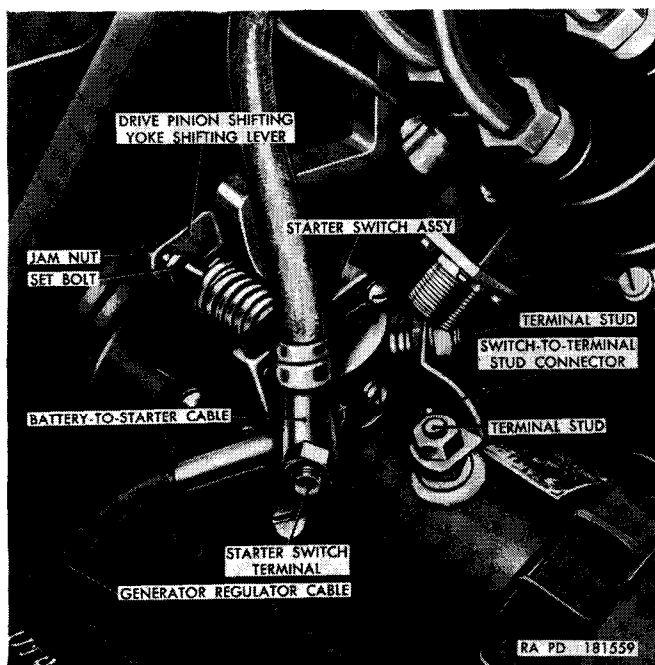
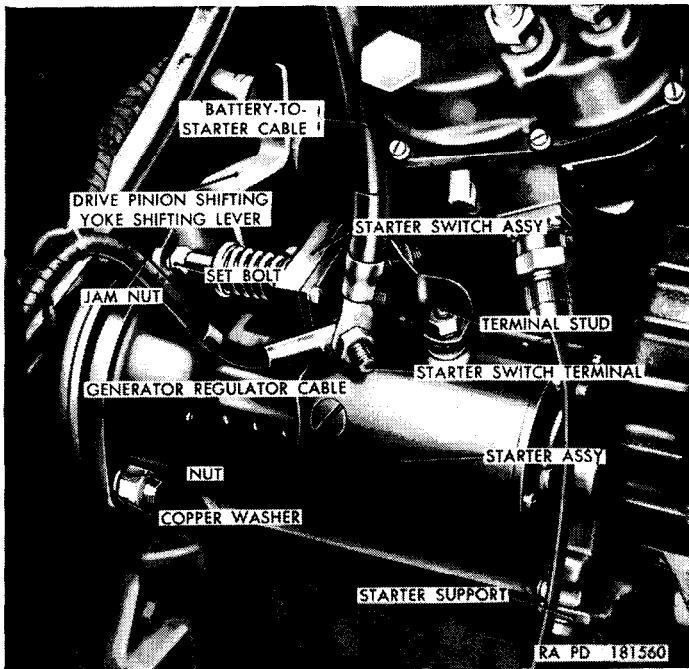

Figure 63. Starter switch terminal—cable No. 12 removed.
Figure 64. Starter installed on engine.
The auxiliary power cable receptacle with connecting cables is considered a part of the starting system as it is the connection for the application of any outside power source such as a booster battery or a charging and starting power unit. The starter pedal assembly engages the starter drive pinion with the flywheel ring gears, and also operates the starter switch assembly. The starter assembly (fig. 64) is a fully sealed, waterproof unit, mounted on the front of the flywheel housing, at the right side. The starter switch assembly (fig. 64) is a separate unit, mounted on top of the starter assembly. The drive incorporates an over-running clutch, which automatically disengages when the engine starts. The starter bearings are lubricated at assembly and require no further lubrication.
*a. Removal.* Loosen the lead-coated nut securing the battery-to-starter cable No. 82 terminal to the positive terminal of battery "B" (fig. 62), and remove the cable from the terminal stud. Pull the cable out of the battery box to avoid accidental contact with the battery terminal. Remove the terminal nut, lockwasher, battery-to-starter cable, generator regulator cable, and auxiliary power receptacle cable (if vehicle is equipped with an auxiliary power receptacle) from the starter switch terminal (fig. 63). Remove the bolt and lockwasher securing the starter assembly to the starter support (fig. 64). Remove the nut and copper washer (fig. 64) from bolt, and remove the bolt and copper washer from the starter clutch and pinion housing assembly and the flywheel housing. Remove the screw and lockwasher in the upper hole of the clutch and pinion housing assembly securing the starter as-
*b. Installation.* Insert the drive pinion end of the starter assembly into the flywheel housing, and position the starter. Place a  $\frac{1}{2}$ -inch copper washer on the  $\frac{1}{2} \times 3\frac{1}{2}$  bolt and insert the bolt through the flywheel housing, through the starter clutch and pinion housing assembly, and install a  $\frac{1}{2}$ -inch copper washer and  $\frac{1}{2}$ -inch nut on the bolt. Install the  $\frac{1}{2} \times 1\frac{1}{4}$  screw and lock washer through the upper hole in the clutch and pinion housing assembly and screw into the flywheel housing. Secure the front of the starter to the starter support (fig. 64) with  $\frac{3}{8} \times \frac{7}{8}$  bolt and lockwasher. Place the battery-to-starter cable, generator regulator cable, and the auxiliary power receptacle cable, if used, on the starter switch terminal (fig. 63) and install the  $\frac{7}{16}$ -inch lock washer and terminal nut. Coat the starter switch terminal and cable terminals with ignition insulation compound. Insert the battery-to-starter cable through the rubber grommet in the battery box, place the cable terminal onto the stud on the battery "B" positive terminal (fig. 62), and install the  $\frac{5}{16}$ -inch lead-coated nut. Coat the battery terminal with artillery and automotive grease (GAA).
*a. Removal.* Loosen the nut securing the battery-to-starter cable No. 82 terminal to the positive terminal of battery "B" (fig. 62) and remove the cable, from the terminal stud. Remove the terminal nut and lockwasher securing the battery-to-starter cable (fig. 63), generator regulator cable, and auxiliary power receptacle cable, if used, to the starter switch terminal, and remove the cables. Remove the nut and lockwasher from the terminal stud (fig. 63) on the starter assembly. Remove the nut and lockwasher from the terminal stud (fig. 63) on the starter switch assembly, and remove the switch-to-terminal stud connector (fig. 63). Remove four bolts and lockwashers securing the starter switch assembly to the starter assembly and remove the starter switch assembly.
*b. Installation.* Place the starter switch assembly on the starter assembly and install four No. 10 x  $\frac{5}{8}$  bolts and lockwashers holding switch to starter. Place the switch-to-terminal stud connector (fig. 63) over the terminal studs on the starter and starter switch. Install the  $\frac{7}{16}$ -inch nuts and lockwashers securing the connector to the terminal studs. Place the battery-to-starter cable, generator regulator cable, and the auxiliary power receptacle cable, if used, on the starter switch terminal. Install  $\frac{7}{16}$ -inch lockwasher and terminal nut. Insert the battery-to-starter cable through the grommet in the battery box and place the terminal over the positive terminal stud on battery "B" (fig. 62). Install the  $\frac{5}{16}$ -inch lead-coated nut securing the battery-to-starter cable to the terminal. Coat terminal with artillery and automotive grease (GAA) and check the operation of the starter switch assembly. If the switch does not make contact so that starter operates, adjust (*c* below).
*c. Adjustment.* Loosen the jamnut (fig. 63) on the setbolt in the drive pinion shifting yoke shifting lever. Depress the starter pedal as far as possible. Adjust the setbolt in or out until the starter switch makes a good contact, and tighten the jamnut. Release the starter pedal, wait a few seconds, and try the pedal again. If adjustment is correct, the starter will operate properly.